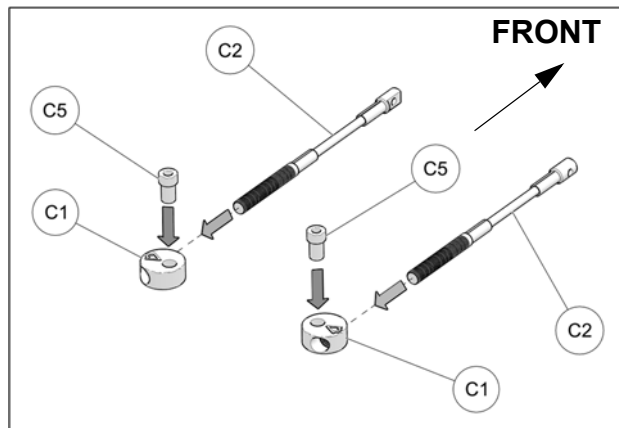

Fig. 23
11. Assemble steering limiter cables (**C2**), aluminum disks (**C1**) and step spacers (**C5**) together as shown on Fig. 23